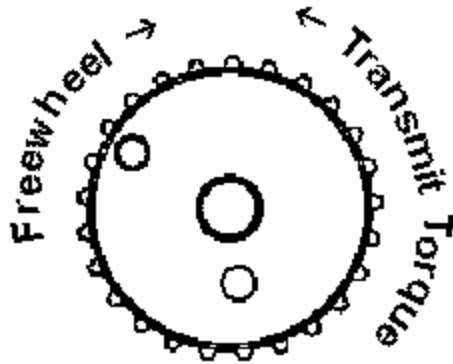

Figure 1A - Feed Gear Pinion Asy
1. Slip the Feed Gear Assembly over the Feed Gear Shaft (070114). Make sure it is pressed flush against the cam of the Bonnet (070000). The taller of the two pins on the Feed Gear Pinion Assembly (070511A or 070111A) should be positioned to the left. (See **figure 1A**)